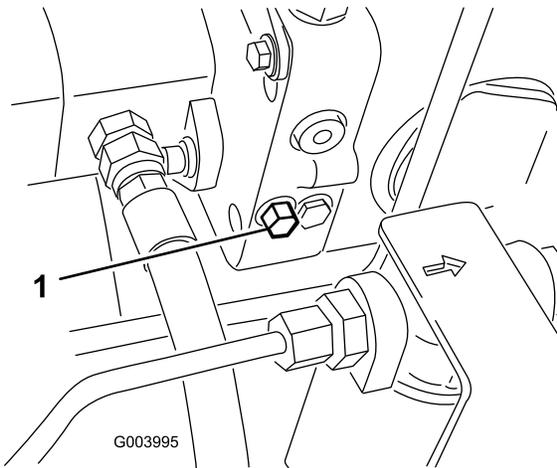

Figure 55
1. Rotate the bypass-valve bolt 1–1/2 turns to open and allow oil to bypass internally (Figure 55).